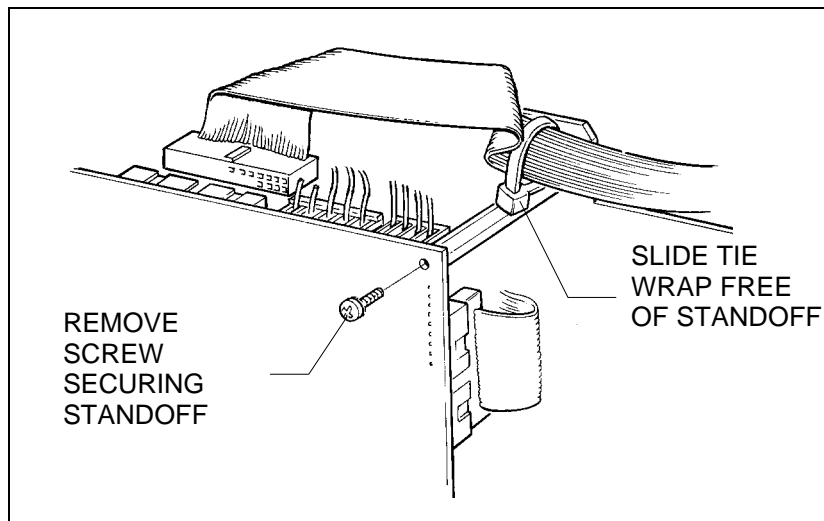

Figure 6-15. Freeing the LCD cable
6. Remove the screw that secures the standoff between the two pc boards. (Figure 6-15)